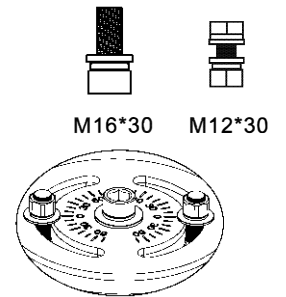

Figure 13
2. According to the need to adjust the lighting direction, can be 360 degrees rotation adjustment, tightened with screws when the adjustment is completed (Figure 13);